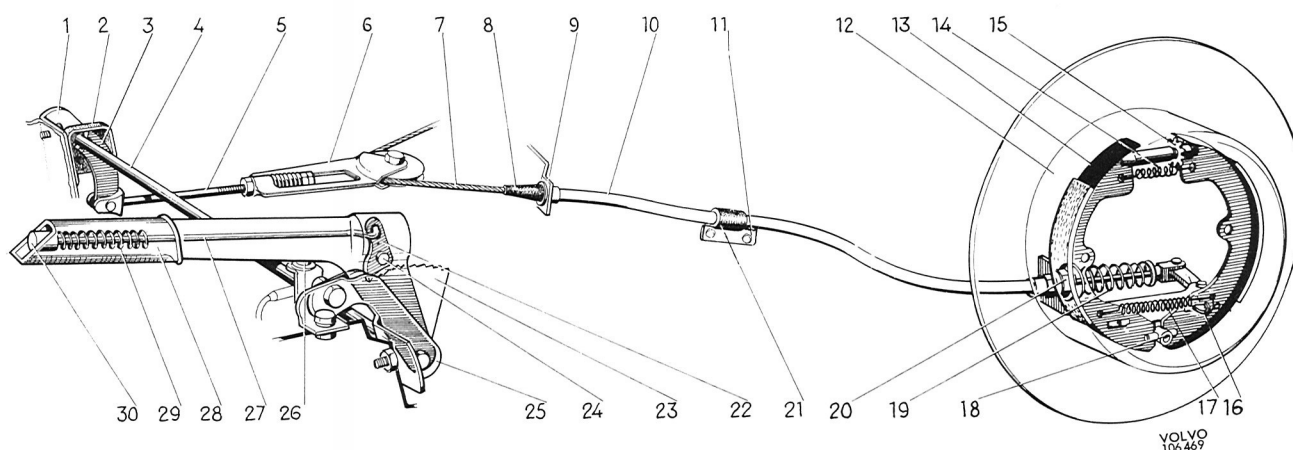

Fig. 5-75. Parking brake
The construction of the parking brake is shown in Fig. 5-75. The parking brake lever (28) is mounted on the floor on the outside of the driver's seat. The movement of the lever is transmitted via the shaft (4), lever and pull rod (5) to the block (6). From here the movement is transmitted through cable (7) to the rear wheel brake units. At each wheel, the movements of the cable influence the lever (16), which is carried in a movable rod (17) on the brake shoes. The lower ends of the brake shoes
4. Remove the rubber cover (8, Fig. 5-75) from the cable sleeve front attachment and remove the nut. Remove the attachment of the rubber suspension in the frame member. Remove the cable from the other side's attachment in the same way.
2. Remove the cotter pin and stretch the cable so that the pull rod (5, Fig. 5-75) can be removed from the lever.
5. Remove the button (30, Fig. 5-75) and the spring (29) from the parking brake lever. Remove the rivet (24) and take out the push rod (27) and the pawl (22).
6. Install the new parts in the reverse order, see Fig. 5-75. Make sure that the rivet is firmly fixed but does not obstruct the movement of the pawl. Lubricate the bushings with a thin coat of ball bearing grease. Do not forget to lock the pull rod and make sure that the rubber covers seal well.